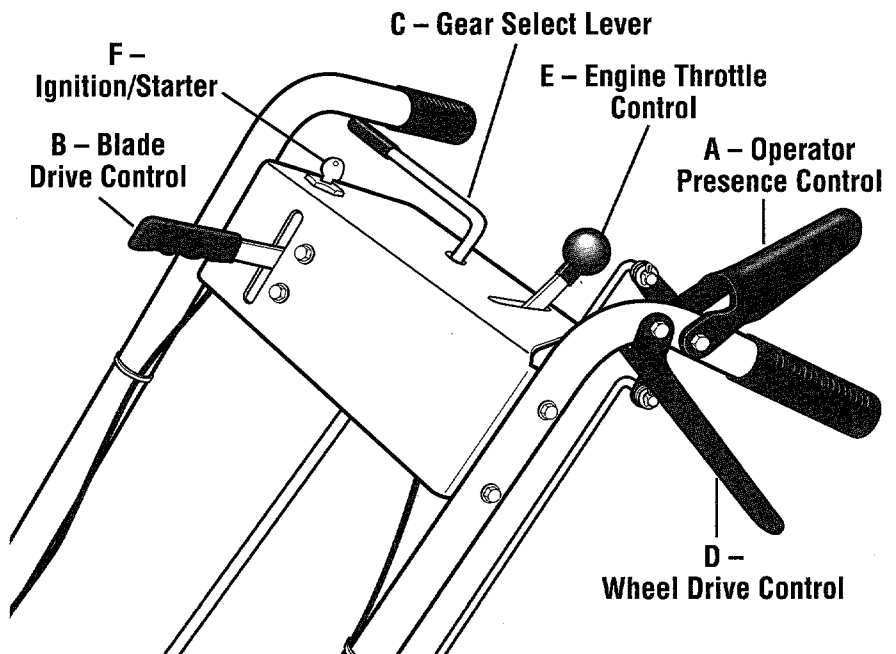

Figure 4-2: Mower Controls
The mower can be manually pushed or pulled by putting the Gear Select Lever (C, Figure 4-2) in N (neutral) and pressing and holding the Operator Presence
Control (A, Figure 4-2) down against the handlebar grip.
3. Move Engine Throttle Control (E, Figure 4-2) fully upward to choke setting to start a cold engine or to fast (rabbit) setting to start a warm engine.
- B. Turn ignition key (F, Figure 4-2) fully clockwise to crank engine. To avoid damage to starter motor, do not crank engine for longer than five seconds at a time. Also, allow 15 seconds between each start attempt. If engine fails to start after three attempts, repeat instructions starting with Step 2 (try setting throttle at fast setting).
2. Press and hold Operator Presence Control (A, Figure 4-2) against handlebar grip.
3. Push Blade Drive Control (B, Figure 4-2) fully forward until it stays in the engaged position. The blades are now rotating.
- A. Press and hold Operator Presence Control (A, Figure 4-2) against handlebar grip.
- B. Put the Gear Select Lever (C, Figure 4-2) in one of the numbered settings (1 - Slow, 2 and 3 - Medium, 4 - Fast). When first practicing with the mower, put lever in No. 1 setting. Select forward speeds according to mowing conditions and terrain. Use slower speeds on rough terrain or when grass is heavy or thick. The forward speed can be increased on smooth terrain or if the grass cover is light. Allow the wheels to stop completely before shifting from one forward speed into another.
- C. To start the wheels, slowly squeeze the Wheel Drive Control (D, Figure 4-2). The harder you squeeze, the faster the wheels will turn. To avoid sudden acceleration, slowly squeeze the lever.
- A. Stop the mower blades and wheels by releasing the Operator Presence Control (A, Figure 4-2).
- C. Put the Gear Select Lever (C, Figure 4-2) in R (reverse) setting by first moving lever to N (neutral). Then pull lever up, turn it to R position, and release lever.
- D. To start the wheels, slowly squeeze Wheel Drive Control (D, Figure 4-2). To avoid sudden acceleration, slowly squeeze the lever.